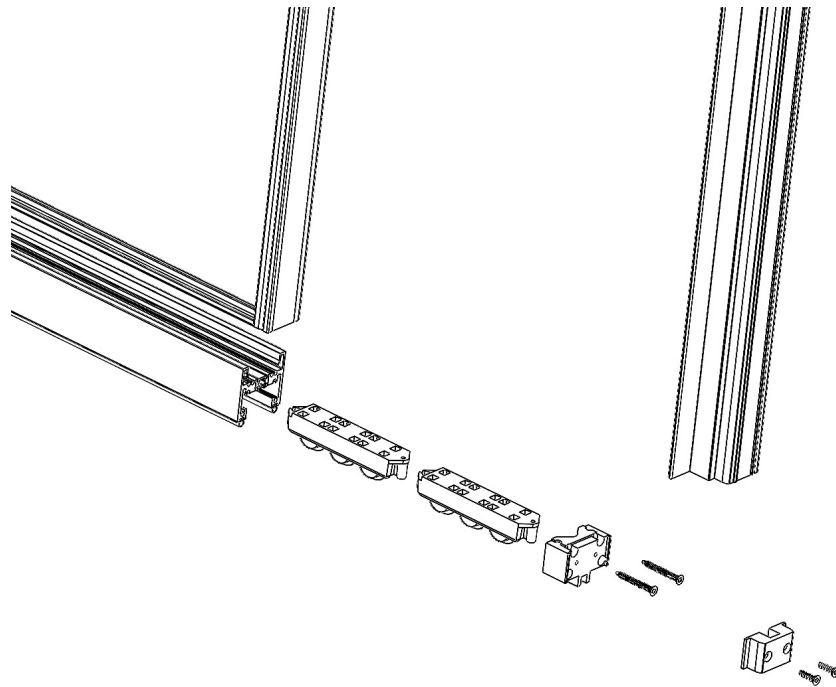

Figure 10
**Note: If you are installing a bi-parting door, you will have one (1) active lead panel and one inactive lead panel. The inactive lead panels are to be installed on the innermost track. The active panel lead will be installed to the left of center, as viewed from the exterior of the building (or however it is identified on the shop drawings). Fixed panels have one (1) interlock, no rollers and rest on the outermost track. Intermediate panels will have two (2) interlock stiles.**
4. The number of roller assemblies divided by the number of operable panels will determine how many rollers each panel will take. Example: A 4' wide panel may take four (4) roller assemblies; two (2) per side. A 5' wide panel may take six (6) roller assemblies; three (3) per side and so on.
5. Determine the number of roller assemblies needed per panel and connect by sliding one (1) roller assembly onto the other. Continue this process for all required rollers. Once complete, slide the end sweep onto the roller assembly and set roller assemblies in front of panel.
6. Taking care not to scratch or shift the lead panel over. With a pry bar, lift the panel high enough to slide the roller assembly system into place. Ensure that all rollers rest onto the track cap and roll freely. See **Figure 10**.